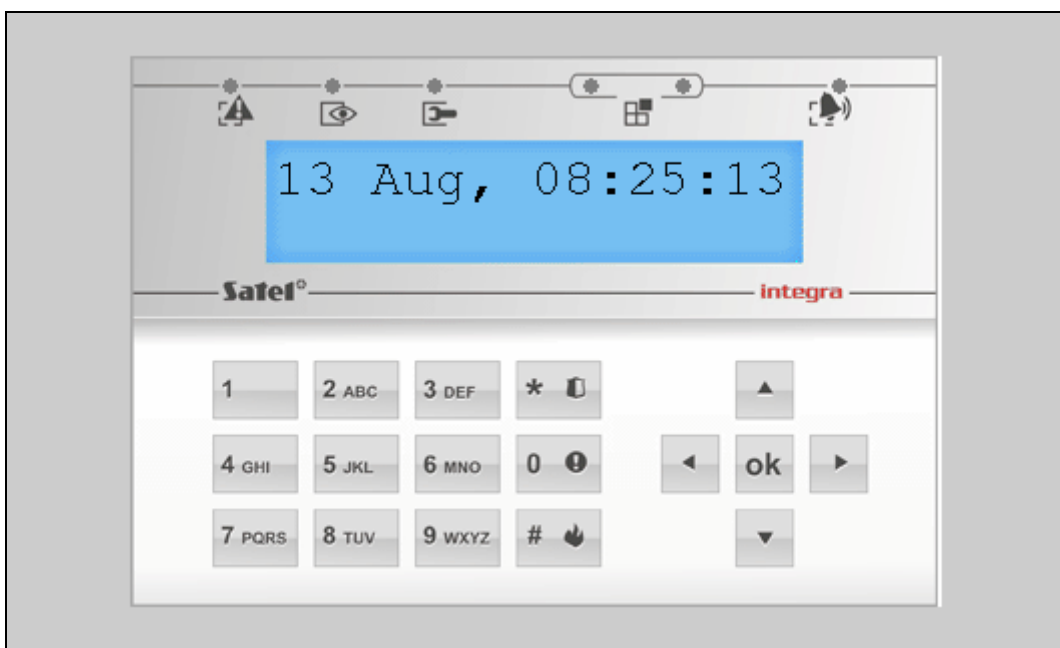

Fig. 14. Web browser: virtual keypad.
5. The virtual keypad will be displayed in the browser (Fig. 14).